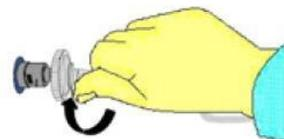

Figure 2b.
6. Attach the arterial and venous transducer protectors to the machine pressure ports by inserting the transducer protector into the port and twisting the female luer clockwise to tighten. Ensure both the transducer protector and female luer connections are finger tight to maintain a closed system. See figure 2b.